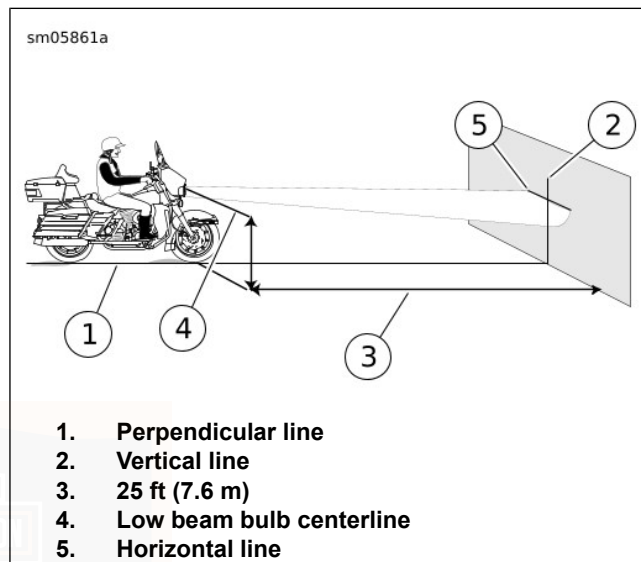

Figure 94. Headlamp Alignment: LED Type (typical)
- b. **LED, fork-mounted fairing:** See Figure 94. At the measured distance.
- b. **LED, fork-mounted fairing:** See Figure 94. Top of hot spot at mark with headlamp set to **low beam**.